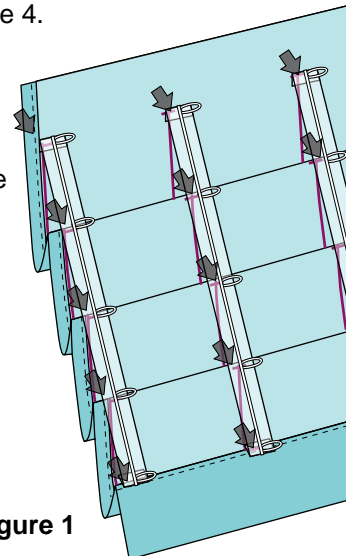

Figure 1
5. With loops facing out, machine tack the Roman shade tapes at each loop position to the marked point (Fig.1).